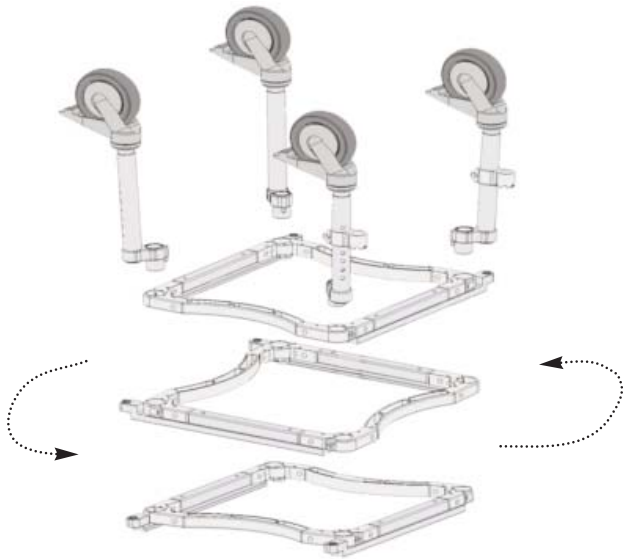

Figure 10
- 1) Remove the roll-in section legs from the frame (Refer to Figure 10)
- 2) Rotate the frame 180 degrees (Refer to Figure 10)
- 3) Re-install the legs (Refer to Figure 10)